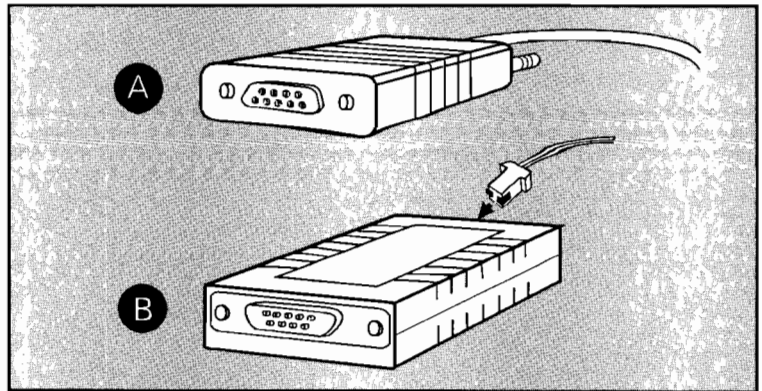

Figure 3-11. Determining the Connection Type
2. Determine the type of connection you want to use to connect your adapter card to your network and get the appropriate cable. See Figure 3-11.
- a. To attach to a shielded twisted-pair network, you will need a shielded twisted-pair cable. See (A).
- b. To attach to an unshielded twisted-pair network, you will need a Type 3 Media Filter. See (B).